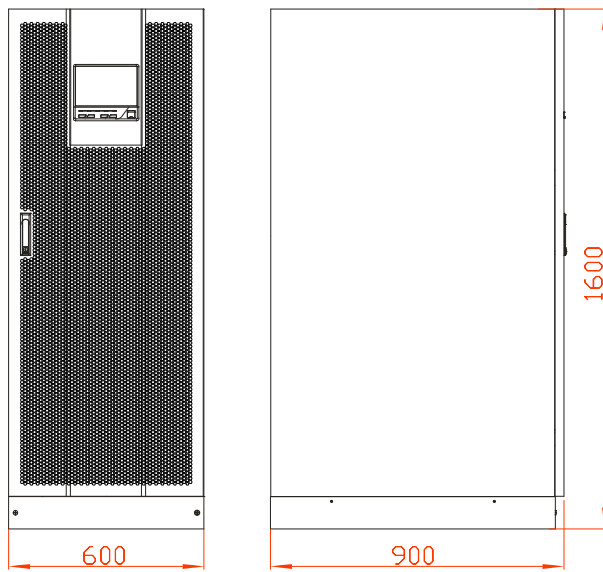

Figure3-13 Size of 160kVA, 200kVA
Step 1 Determine and plan the installation position according to the UPS size (as shown in Figure3-13) and installation clearance requirement (see 3.2.3 Installation).